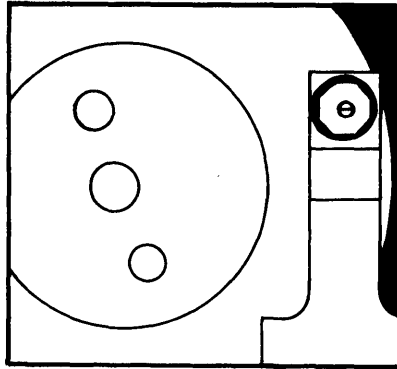

Figure 2-6 Locking Latch in the Unlocked (Vertical) Position
5. Lift the latch from the round disk and place it in the vertical position illustrated in Figure 2-6. This is the unlocked position.